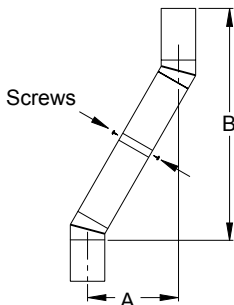

Figure 7 - Elbow Offset
Continue to assemble chimney sections as outlined above, making sure that both inner and outer pipe sections are locked together. When installing double wall snap-lock chimney together, it is important to assure the joint between chimney sections is locked. Check by pulling chimney upward after locking. The chimney will not come apart if properly locked. It is not necessary to add screws to keep chimney together (exception, see Figure 7).
1. To achieve desired offset, you may install combinations of 12", 18", 24", 36" and 48" length of double wall pipe (see offset chart and Figure 7).
4. All pipe connections between offset and return must be secured with two screws on outer pipe only (see Figure 7). Do not penetrate inner stainless.